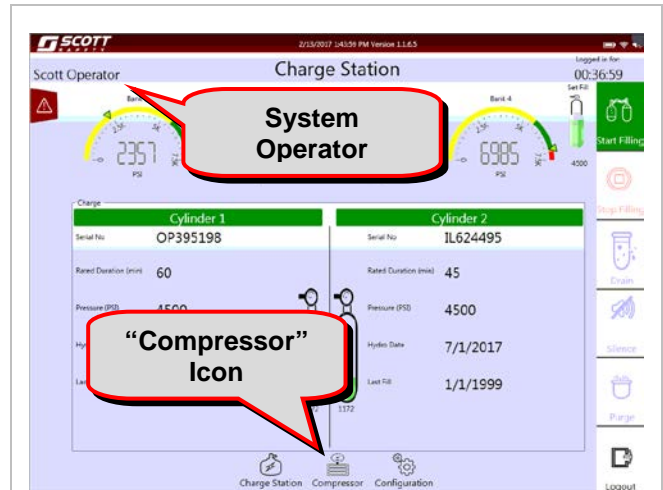

Figure 3.3-3: Charge Station Screen (Default)
- Once logged in, the Operators name will be displayed in the upper left corner of the display. The operator's name will be recorded in the data log. See Figure 3.3-3.
- To gain access to the compressor screen touch the Compressor Icon at the bottom of the screen. See Figure 3.3-3.